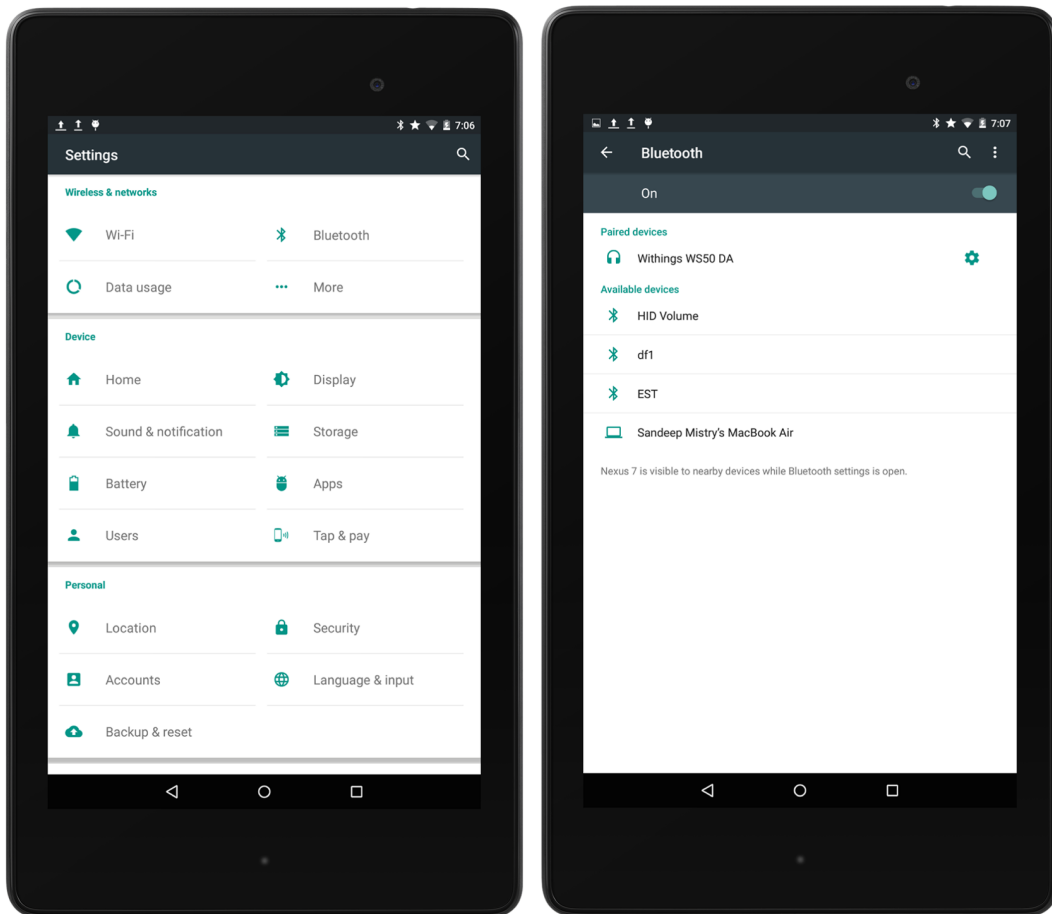

Figure A-4 Left: Android Settings; Right: Android Bluetooth Settings
1. Open the Settings app (Figure A-4, left).
2. Go to Bluetooth (Figure A-4, right).